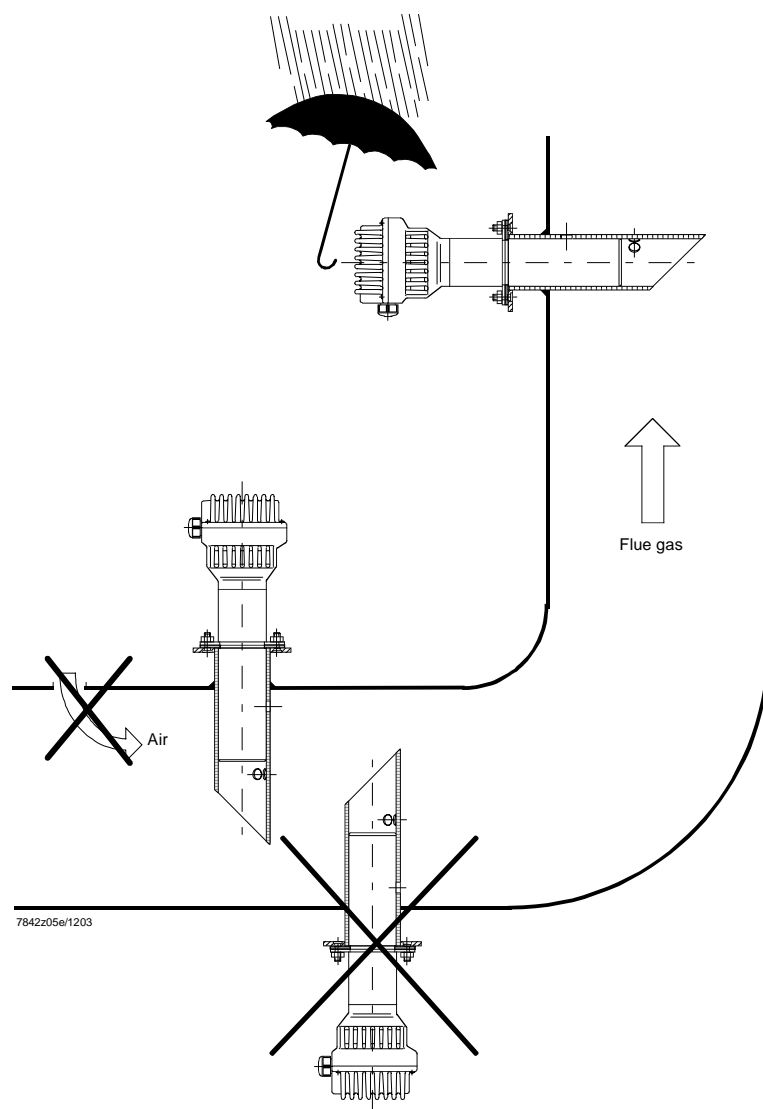

Figure 8: Mounting position of QGO20...
1. Collection of flue gases and passing them to the sensor (Figure 8), adapting the sensor to the stack.
To reduce the response time in the case of low flow velocities, the AGO20... can also be mounted in an inclined position (Figure 8).